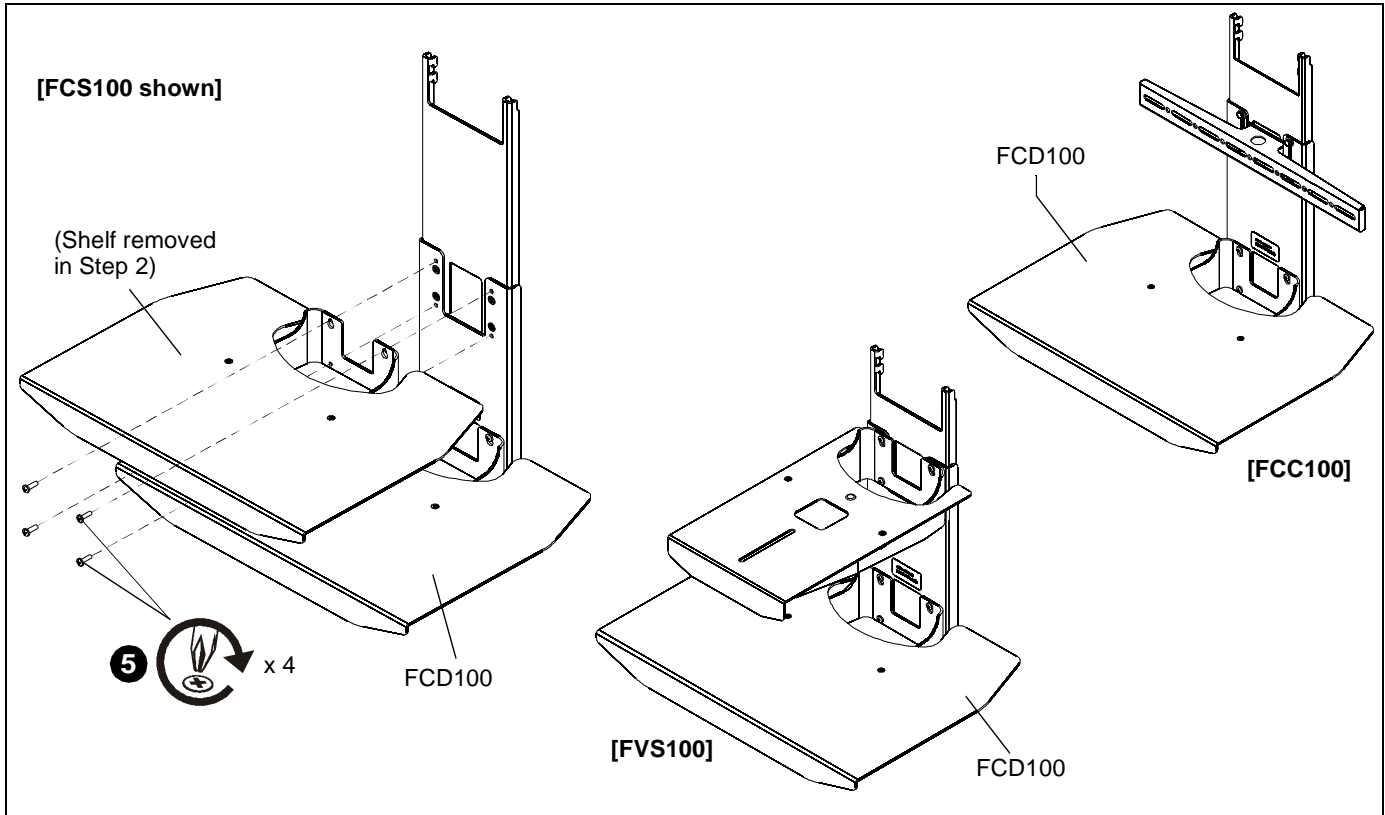

Figure 4
The FCD100 may be used along with a shelf accessory or a bracket accessory, such as a center speaker bracket. (See Figure 4)
5. Reattach shelf or bracket removed in Step 2 using four Phillips head screws removed in Step 1. (See Figure 4)